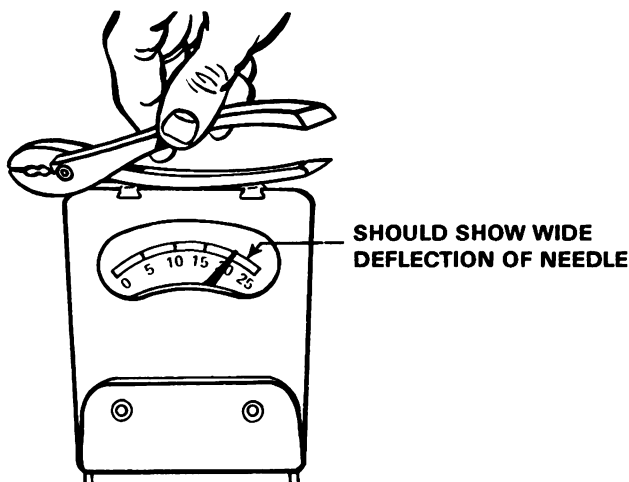

Figure 3.
c. To check the blasting galvanometer, hold a piece of metal across its terminals. If the battery is good, this should show a wide deflection of the needle, approximately 25 units (zero ohms) (figure 3).